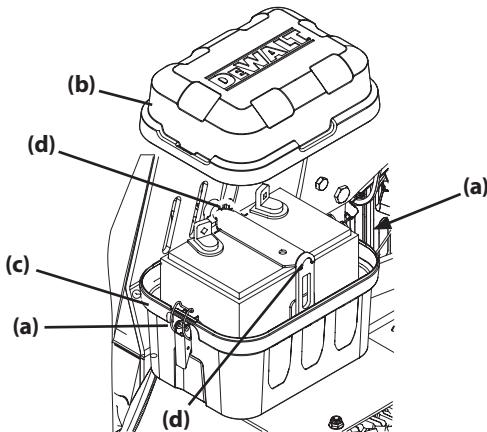

Figure 20
- Release the two latches (a) securing the battery cover (b) to the battery box (c) and remove the battery box lid. See Figure 20.